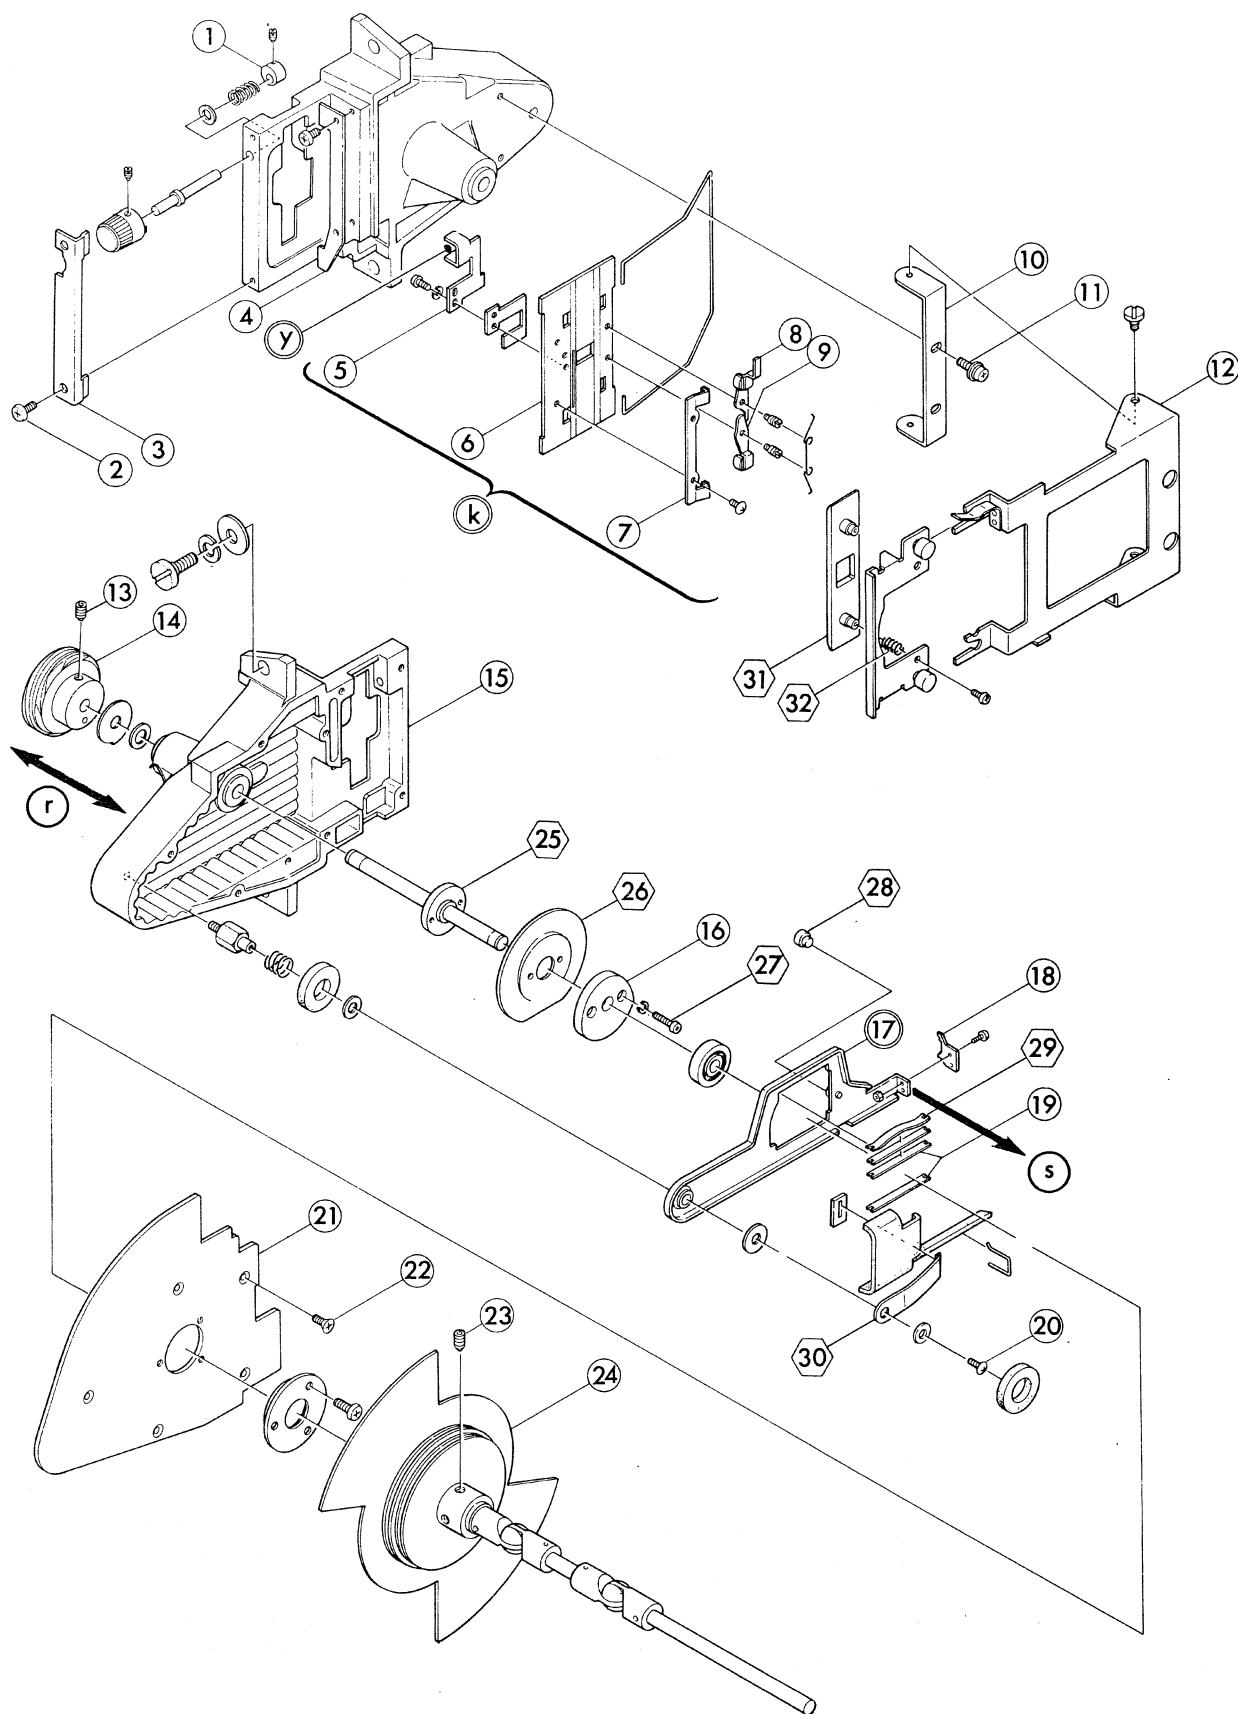

Fig. 12
- (4) Measure the tension to (s) direction in Fig. 12 at the attaching position of Fig. 12-18 by a tension gauge.
- (6) Adjust the attaching position of Fig. 12-5 or bend (y) in Fig. 12 so that momentums of a picture in the both directions may be equal. Then Fig. 12-1 should not only closely contact with (y) in Fig. 12 but also smoothly move.
|              | Aperture Plate(Fig.12-6)                  | Check the flatness of Fig.12-6. If not flat, replace it.                                                        | Fig. 12      |
|              |                                               | Adjust Fig.12-18 to keep correct position against film perforation. If Fig.12-18 is damaged, replace it.        | WFig. 12 |